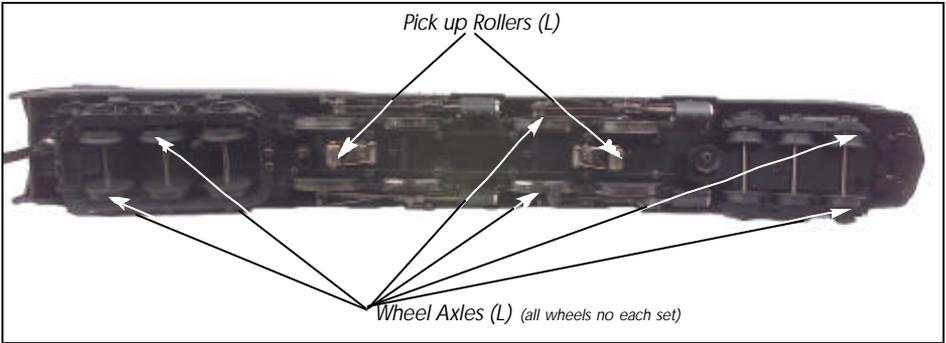

Figure 2 - Lubrication Points on the Engine
3. You should lubricate all side rods and linkage components also pickup rollers to prevent them from squeaking. Use light household oil and follow the lubrication points marked "L" in Fig. 2 on page 9. Do not over oil. Use only a drop or two on each pivot point.
You should regularly lubricate side rods and linkage components and pick-up rollers on the engine and tender to prevent them from squeaking. Use light house hold oil and follow the lubrication points marked "L" in Figure 2. Do not over oil. Use only a drop or two on each pivot.